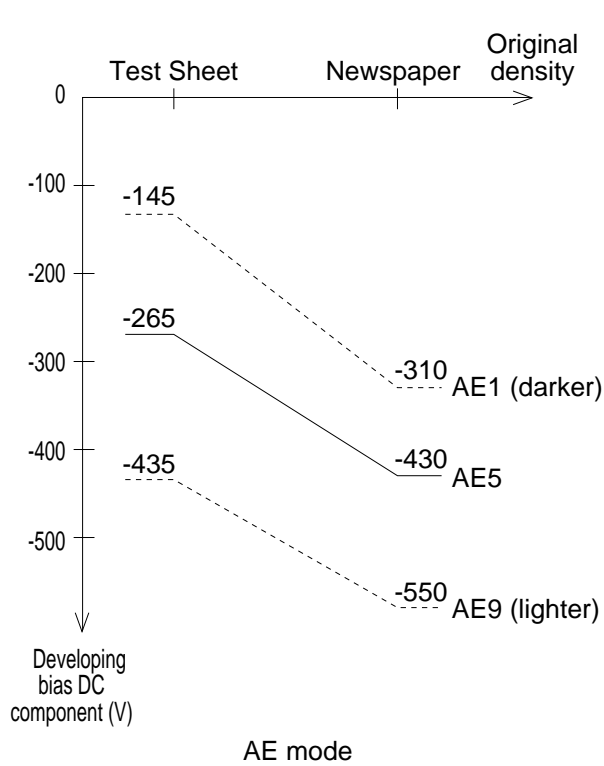

Figure 4-109
* The DC bias value in the table is a correction value based on the value in Figure 4-109 and 4-110.
Figures 4-109 and 4-110 show the changes in the DC bias caused by changes in the output of the AE sensor during auto density adjustment and the density adjusting lever settings during manual adjustment.